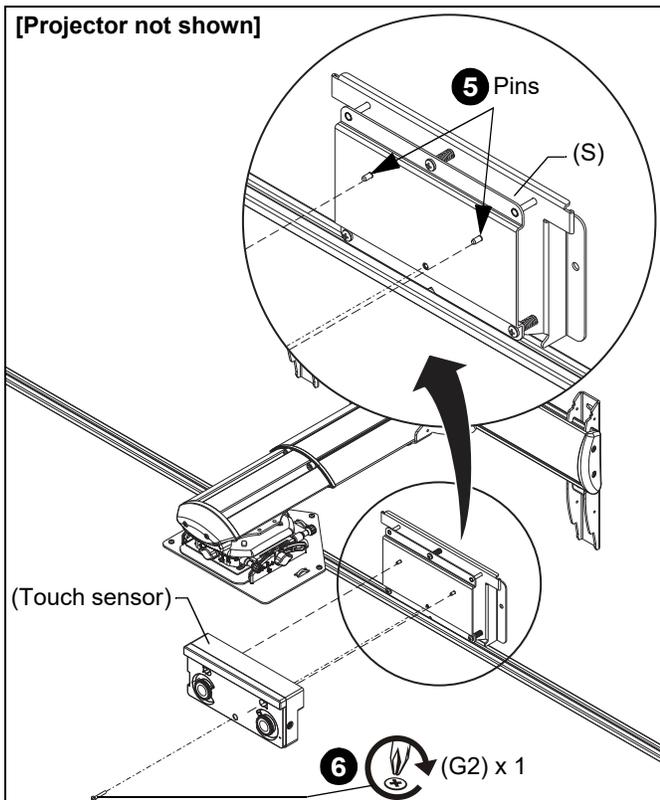

Figure 29
5. Attach touch sensor to sensor mount assembly (S) by placing two mounting holes in touch sensor over pins on face of sensor mount assembly. (See Figure 29)
6. Using one M4 x 25mm Phillips cap head screw (G2), fasten touch sensor into place. (See Figure 29)